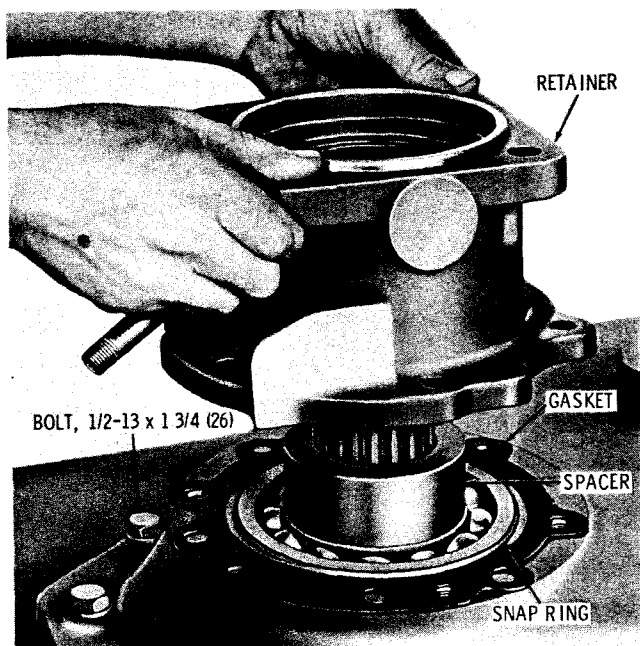
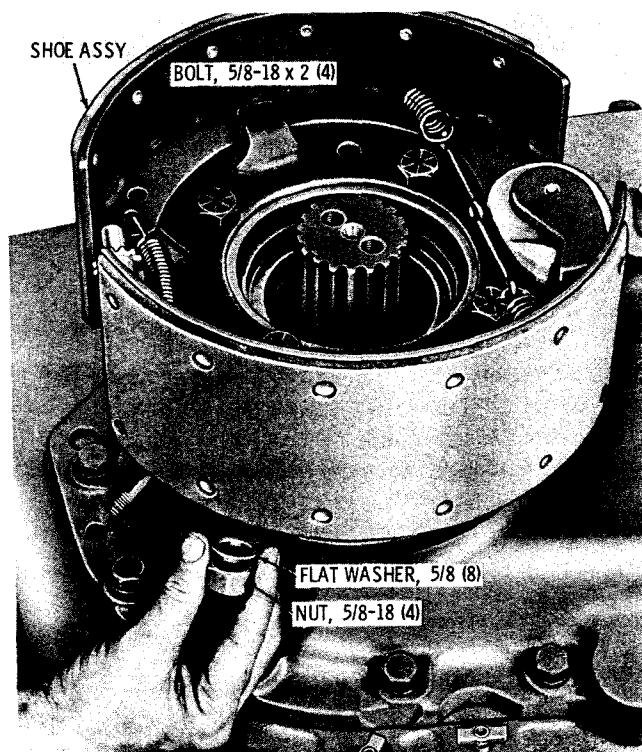

Fig. 7-4. Installing rear bearing retainer (models with parking brake)
Fig. 7-5. Installing nut onto bolts which retain brake shoe assembly
(10) Install twenty-six 1/2-13 x 1 3/4-inch bolts, with lock washers, to retain the cover (fig. 7-4). Tighten the bolts to 67 to 80 pound feet torque.
(11) On transmissions having an output at only the rear, install the snap ring into the groove in the output shaft rear bearing (fig. 7-4).
(12) On transmissions having a parking brake, follow the instructions in (13) through (18), below.
(13) Install the rear bearing retainer gasket (fig. 7-4). Install the spacer onto the output shaft. Install the bearing retainer.
(14) Install six 1/2-13 x 1 1/2-inch bolts, with lock washers. Tighten the bolts to 67 to 80 pound feet torque.
(15) Install the brake shoe assembly (fig. 7-5). Install four 5/8-inch flat washers onto four 5/8-18 x 2-inch bolts and install them through the back plate of the shoe assembly and the rear flange of the bearing retainer. Install four more 5/8-inch flat washers and four 5/8-18 nuts. Tighten the bolts to 134 to 160 pound feet torque, while holding the nuts to prevent rotation.
(16) Establish the proper thickness of the shim pack at the end of the output shaft as outlined in paragraph 4-8b.